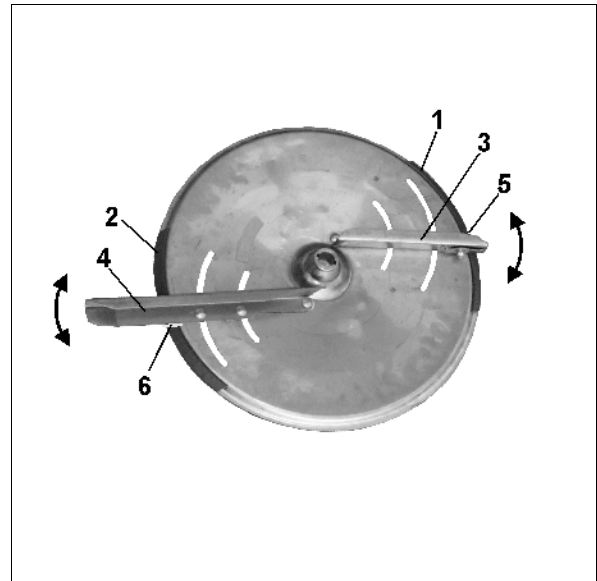

Fig. 29
For the accurate tool less setting of the individual spreading vane position two different unmistakable scales (Fig. 29/1 and Fig. 29/2) are arranged on every individual spreading disc.
The scale (Fig. 29/1) with the figure from 5 to 28 refers to the shorter spreading vane (Fig. 29/3) and the scale (Fig. 29/2) with the figures from 35 to 55 refers to the longer spreading vane (Fig. 29/4).
Swivelling the spreading vanes to a higher figure on the scale (Fig. 29/1 or Fig. 29/2) results in an increase of the working width.
- Look for the scale figure for the position of the short spreading vane on scale (Fig. 29/1) aufsuchen.
- Swivel the read off edge (Fig. 29/5) of the **short** vane (Fig. 29/3) on to the scale figure and **re-tighten the thumb nut firmly**.
- Look for the scale figure for the position of the **long** spreading vane on scale (Fig. 29/2) aufsuchen.
- Swivel the read off edge (Fig. 29/6) of the **long** vane (Fig. 29/4) on to the scale figure and **re-tighten the thumb nut firmly**.